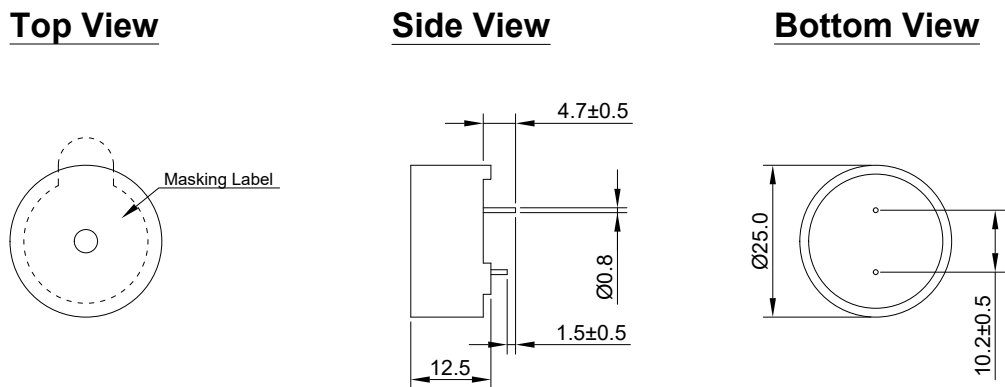

Figure 2. HCM2505B Mechanical Layout
- 4.3.1. Layout and Dimension : See Section 6, Figure 2